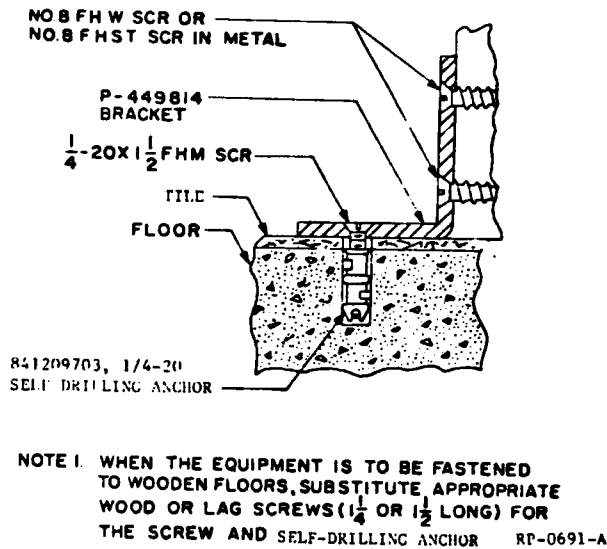

FIG. 1 FASTENING DESKS, CABINETS OR LIGHT FRAMEWORKS TO FLOORS
4.11 Some light frameworks and cabinets may be fastened to the floor as shown in Figure 1.
(BSP 800-614-154 Fig. 1)